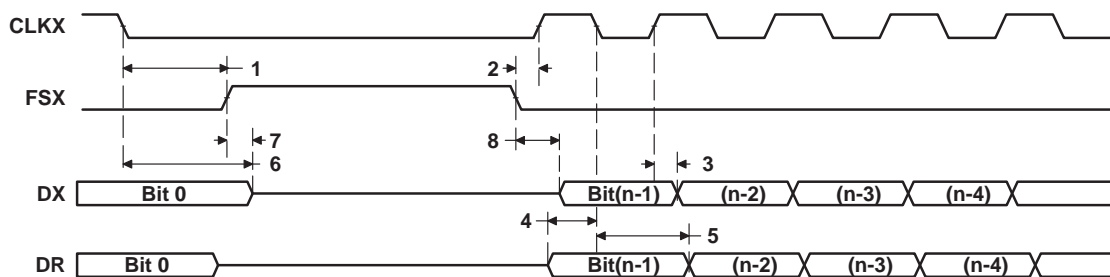

Figure 34. McBSP Timing as SPI Master or Slave: CLKSTP = 10b, CLKXP = 0
**timing requirements for McBSP as SPI master or slave: CLKSTP = 10b, CLKXP = 0†‡ (see Figure 34) ('C6201)**
**switching characteristics for McBSP as SPI master or slave: CLKSTP = 10b, CLKXP = 0†‡ (see Figure 34) ('C6201)**
(see Figure 34) ('C6201B)